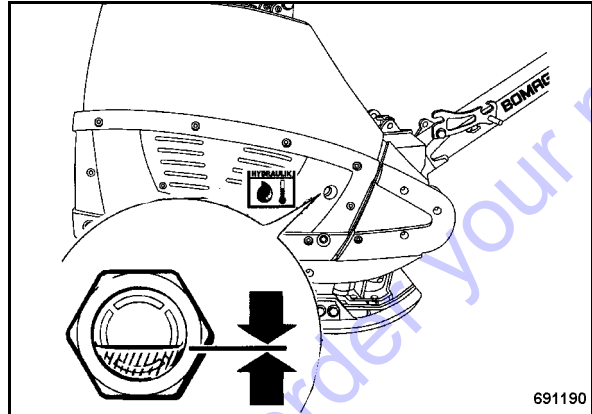

Fig. 49
- Check the oil level in the inspection glass (Fig. 49).